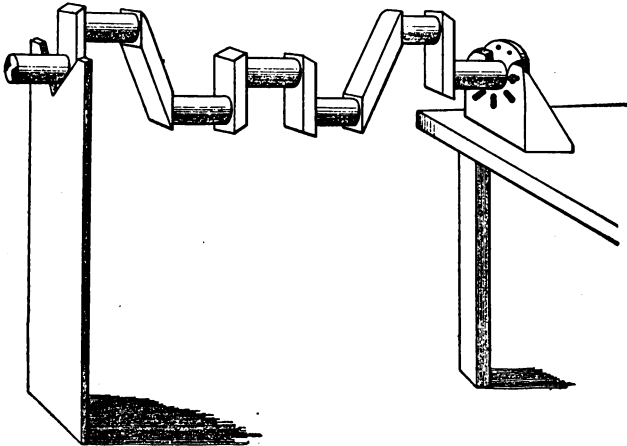

Fig. 72. Set-Up for Supporting Crankshafts Out of Motor
**Holding the Crankshaft.** When the shaft has been removed from the engine, and work is to be done upon it, it is an awkward thing to handle. It is just delicate enough so that it cannot be handled carelessly, yet its size and weight make it difficult to move around. Thus, in lapping the shaft pins, in fitting connecting-rod bearings, or doing other work upon it, a support which is simple, easily moved around, yet adequate, is needed. Ordinarily a shaft is clamped in a vise, but this is not always satisfactory when working on an end bearing. The method shown in Fig. 72 has many advantages. This consists of a special bench fixture and a notched board. The latter should be at least 1-inch stock, that is, it should be  $\frac{7}{8}$ -inch when dressed on both sides. The former is simply a metal angle with a series of radial slots to take the flywheel bolts, with a central hole for the shaft to rest in. The metal above the hole is well cut away to facilitate putting the shaft in and taking it out.